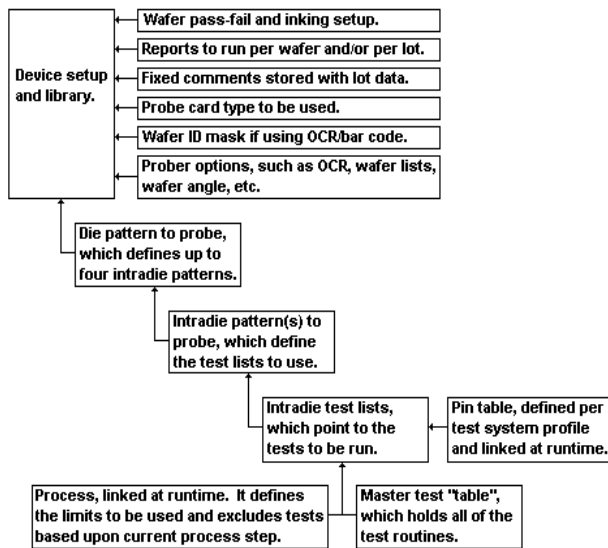

Figure 12 – Database Recipe Hierarchy
- Single tests, die patterns, limit tables, etc. can be shared using database keys so that a change only has to be made once to effect dozens of products (figure 12).